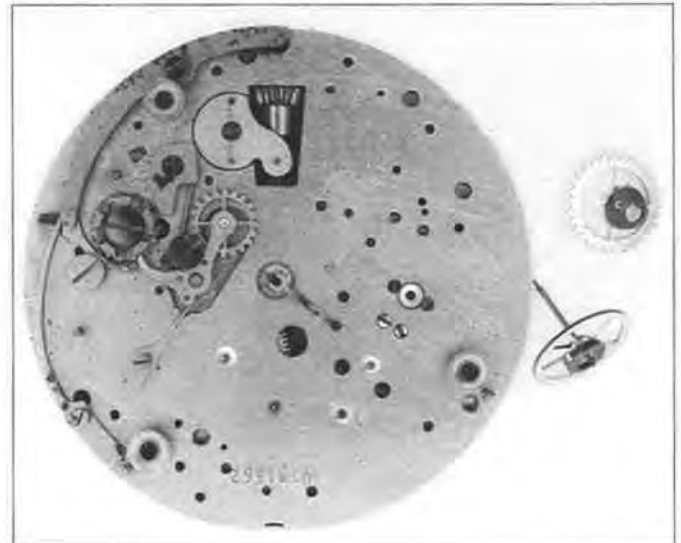

Figure 9
Step 9. Remove the minute register wheel. This wheel should also be lifted out of position by one of the wheel spokes. Always check the condition of the pivots when a wheel is removed. The pivot holes should also be checked for wear. Figure 9 shows the seconds wheel and intermediate minute wheels after their removal.